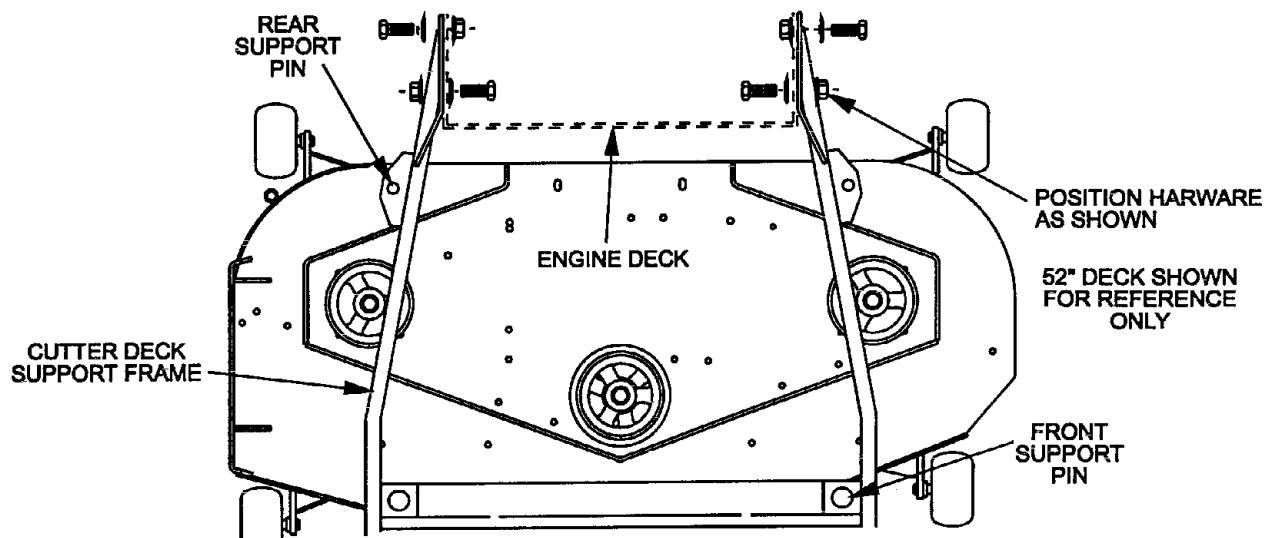

FIG. 2
NOTE: Place spring washer cone against bolt head and install with the whizlock nut to the **inside of engine deck** for the two **rear** holes on both sides. Install whizlock nut to the **outside** for the two **front** bolt holes on each side of the **cutter deck support frame**. (See Figure 2). Tighten until spring washers are flat.
- 3.6.4 Position tractor, with cutter deck support frame in place, over the cutter deck. Align support frame above cutting deck and position it so the support pins on the deck align with the mounting holes in the support frame. Lower support frame onto deck and Reinstall the two large hairpins and washers on the front support pins and the two smaller hairpins and washers onto the rear support pins (See Figure 2).